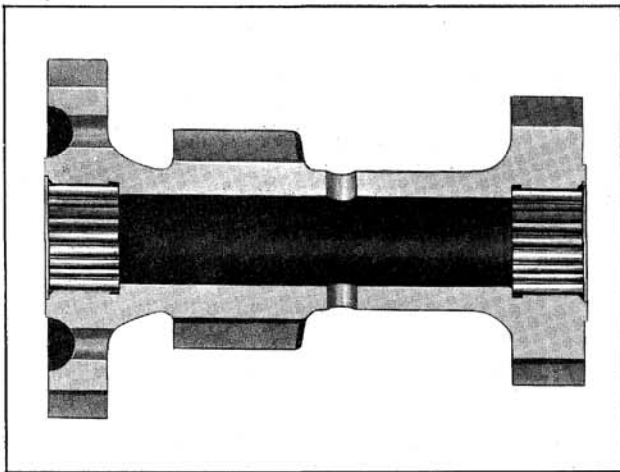

Fig. 7-18 Countergear and Rollers
1. Place some cup grease in the roller bearing area of each end of the counter gear and install the 25 rollers in each end. The grease will hold the rollers in place while installing. (Fig. 7-18)